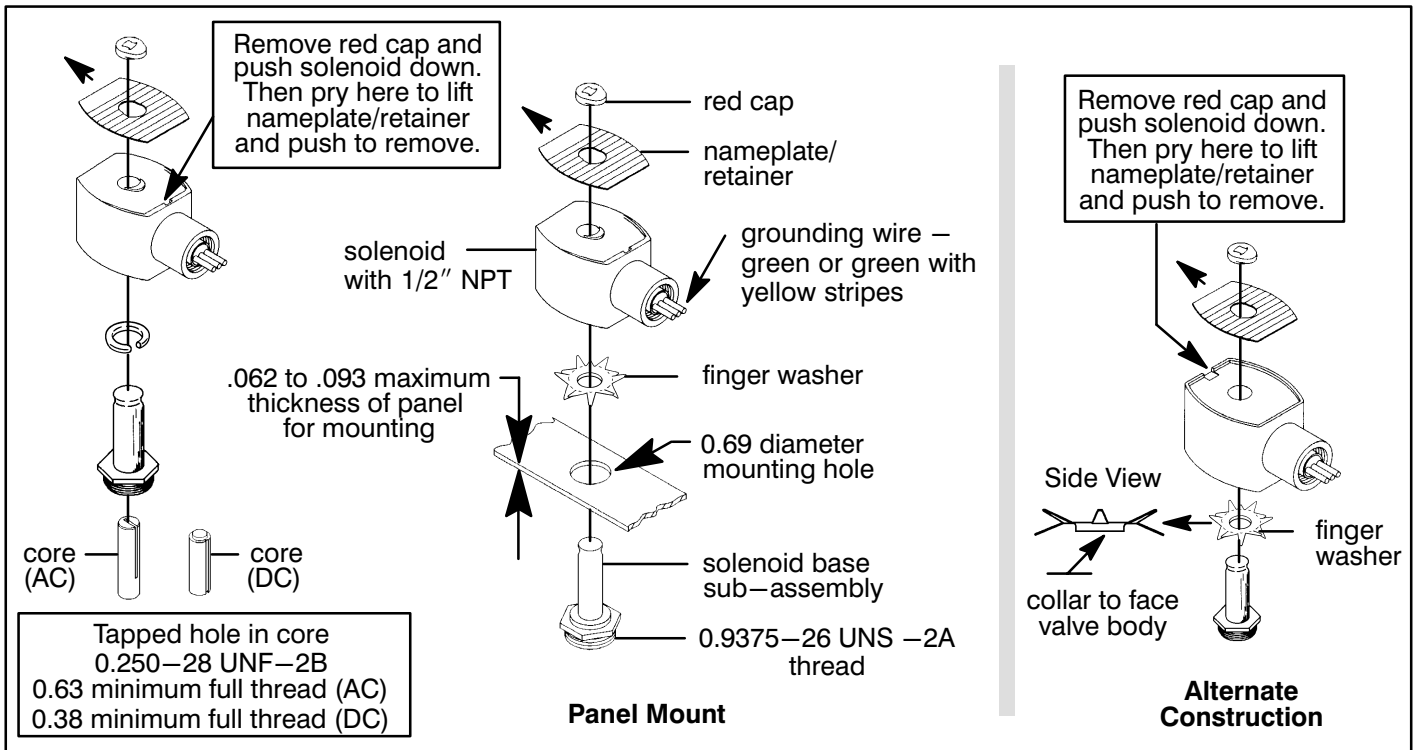

Figure 1. Series 8003G solenoids
- **Panel Mounted Construction:** These solenoids are specifically designed to be panel mounted by the customer through a panel having a .062 to .093 maximum wall thickness. Refer to Figure 1 and section on *Installation of Panel Mounted Solenoid*.
Installation of Panel Mounted Solenoid (See Figure 1)